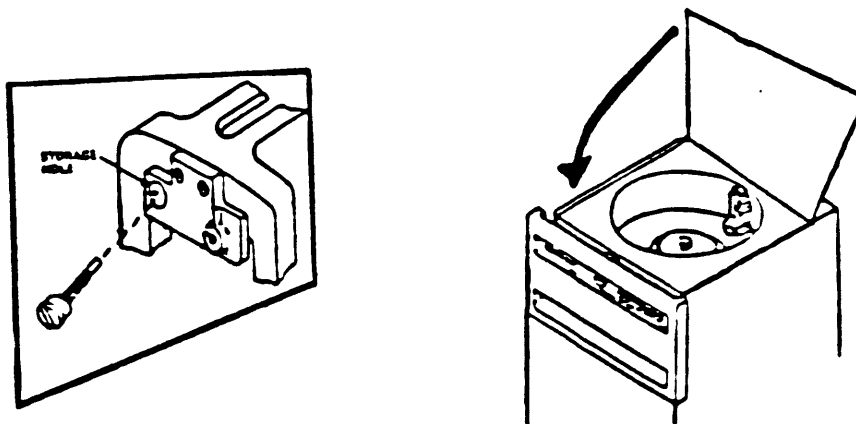

Figure 2-34. Unlock the Positioner in the RA60 (2 of 2).
- o Insert the locking bolt in the storage hole (see Figure 2-34).